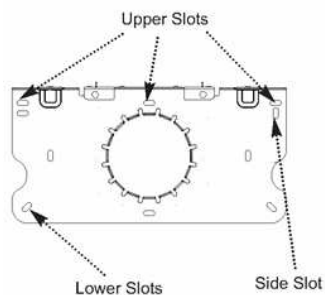
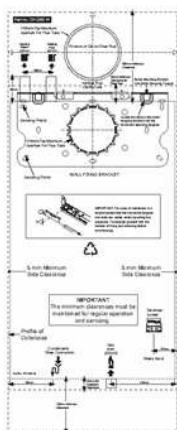

Fig. 32
Fig. 33
1. Position the fixing template on the wall ensuring it is level. Mark the position of the most suitable upper fixing slots for the wall bracket (Fig. 33). The two lower slots **MUST** be used, and it is recommended that the side slot is used where possible (Fig. 32).
2. Mark the position of the centre of the flue hole. If required mark the centrelines of the gas supply, condensate drain and heating flow & return pipes. Remove the template (Fig. 33).